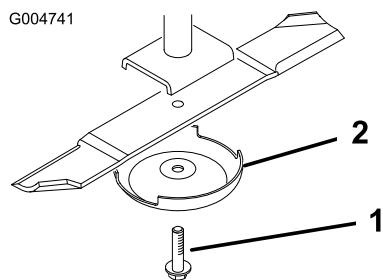

Figure 87
2. Grasp the end of the blade using a rag or thickly padded glove. Remove the blade bolt, anti-scalp cup, and blade from the spindle shaft (Figure 87).